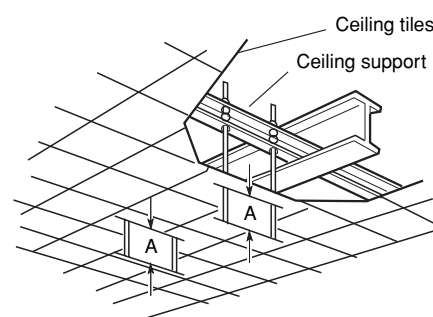

Fig. 3-93
- b) Use existing ceiling supports or construct a suitable support as shown in Fig. 3-93.